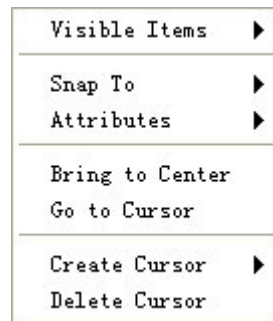

Figure 13-2 Single-Plot Marker Menu
- After a "Single-Plot" marker is created, select and right-click the name of this marker in the marker setting area; the single-plot marker menu is displayed as shown in Figure 13-2. In addition, the name of the associated curve as well as